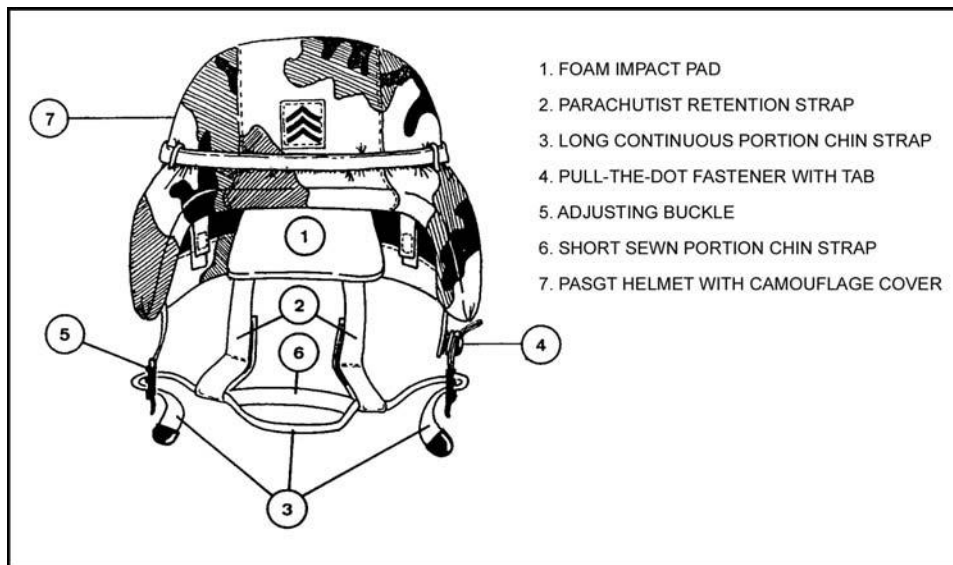

Figure 2-12. Ballistic helmet and nomenclature.
b. **Camouflage Cover.** A camouflage cover (Figure 2-12) is secured to the helmet by placing the cover over the helmet and threading both sides of the unfastened chin strap through the corresponding slits in the cover. The two rear attachment tabs of the cover are tucked between the cover and the helmet. The two ends of the parachutist retention strap are threaded through the corresponding slits in the rear of the cover. The four remaining attachment tabs are fastened around the nylon webbing of the suspension band with drawstring and adjustable tab.